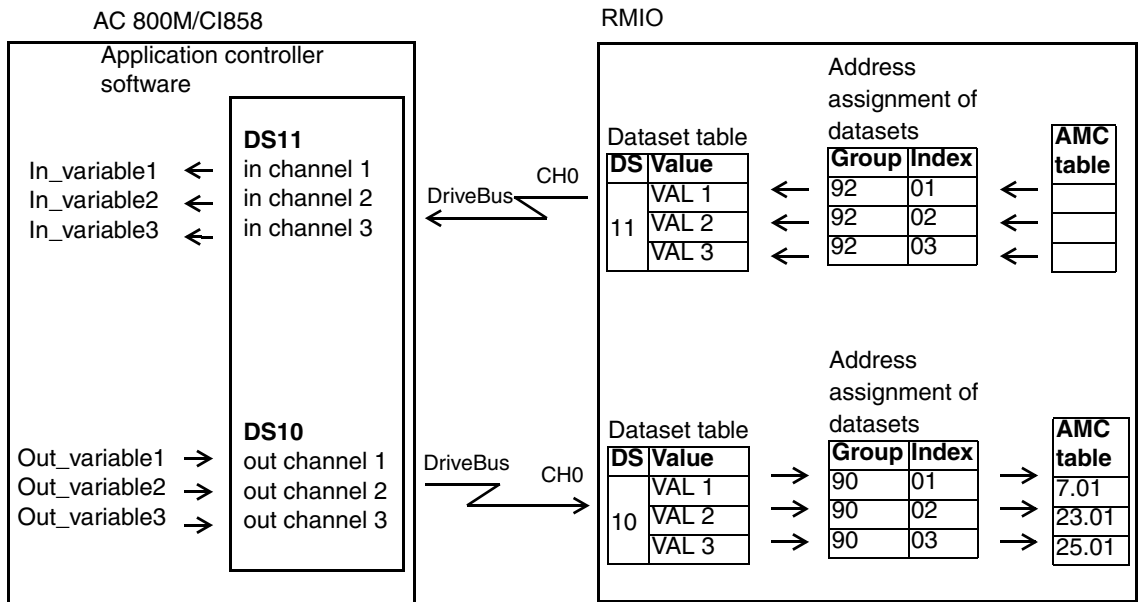

Figure 46. Dataset communication.
The data exchange between AC 800M, ABB Drives and I/O units, via CI858, consists of dataset pairs, which include input and output datasets, see Figure 46. One dataset (DS) consists of three 16-bit words, called data words (DW).